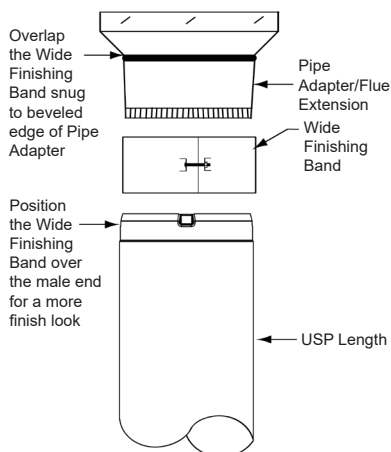

Figure 1A - Pipe Adapter with beveled edge
3. Wrap the Wide Finishing Band over the dimpled male end of the USP pipe and the Pipe Adapter/Flue Extension. Ensure it is over the bead and snug to the beveled edge of the ASE or the Basecap. Secure the Wide Finishing Band in place with the supplied nut and bolt. See Figures 1A-1B.